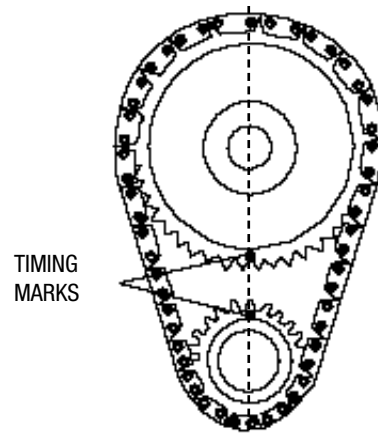

Figure 1—Timing Chain Sprocket Alignment
16. Remove fuel pump and fuel pump push rod. Rotate engine until timing marks are aligned as in Figure 1.
4. Install camshaft with timing marks lined up as recommended by factory specifications. See Figure 1.
**PUSHROD AND ROCKER ARM INSTALLATION**—After the cam is installed and timed correctly (see Figure 1), install push rods, lifters and rocker arms.